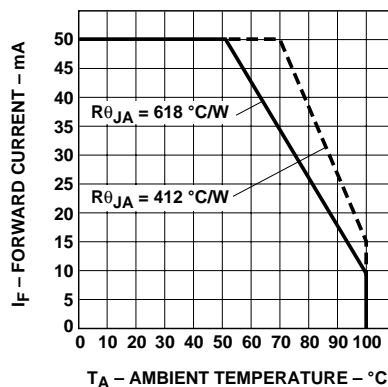

Figure 4. Maximum forward current vs. ambient temperature. Derating based on $T_{Max} = 110^\circ\text{C}$.
1. Derate linearly as shown in Figure 4.